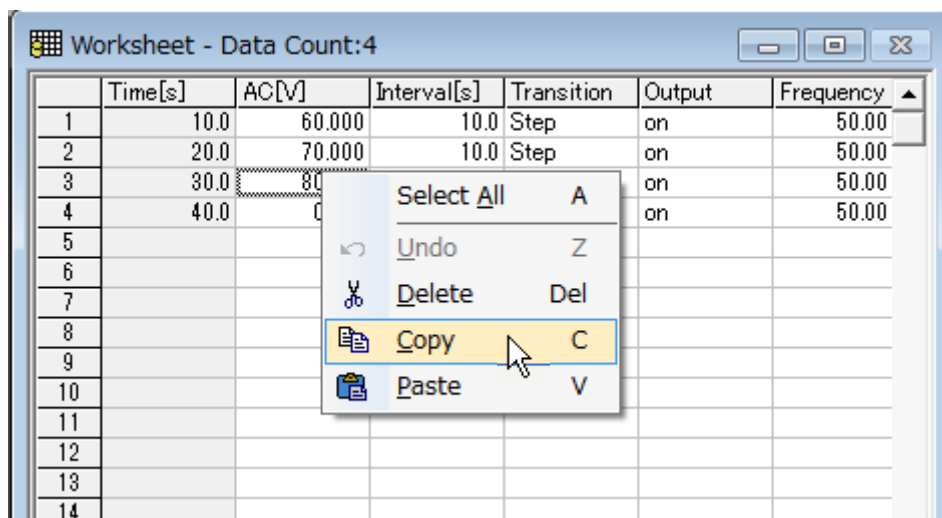

Fig. 7-11 Delete, Copy, and Paste
* You can also delete, copy, or insert multiple lines. To perform these actions, press the right mouse button (Fig. 7-11).
* The shortcut keys in Fig. 7-11 work by themselves and in combination with the CTRL key.